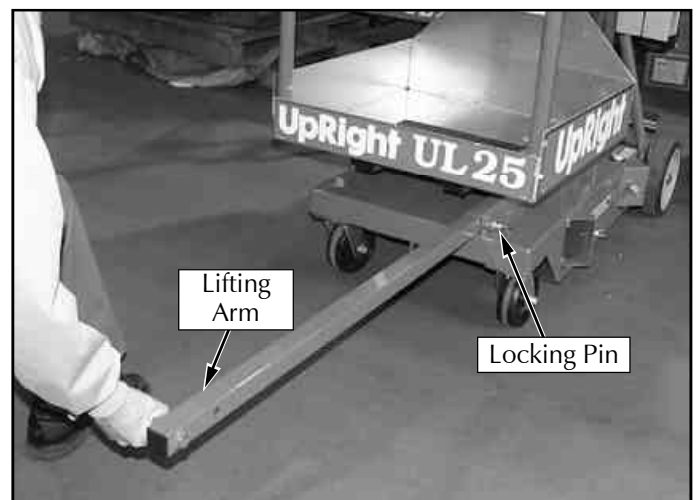

Figure 3-4: Lifting Arm positioning
5. Release the locking pin and pull the Lifting Arm out until the locking pin engages the hole in the end of the Lifting Arm (fig. 3-4).